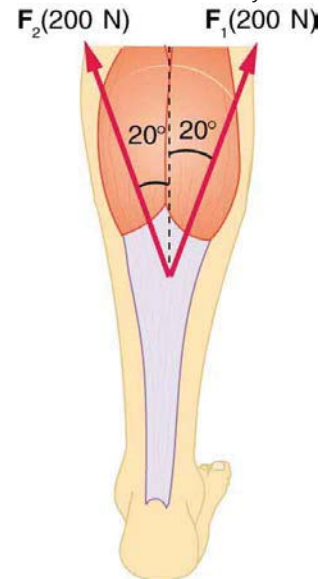

Figure 9.37 The Achilles tendon of the posterior leg serves to attach plantaris, gastrocnemius, and soleus muscles to calcaneus bone.
27. Two muscles in the back of the leg pull on the Achilles tendon as shown in Figure 9.37. What total force do they exert?